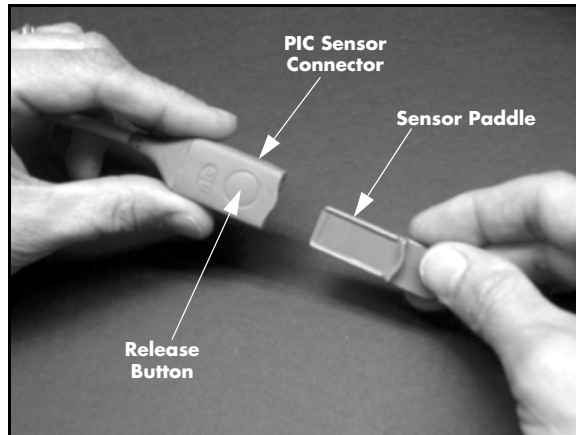

FIGURE 2-66 Connecting the Sensor to the PIC
6. Connect the BIS Sensor to the PIC as shown in FIGURE 2-66.